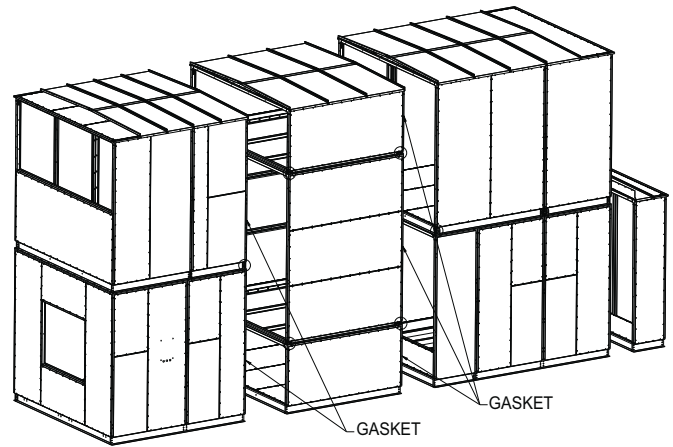
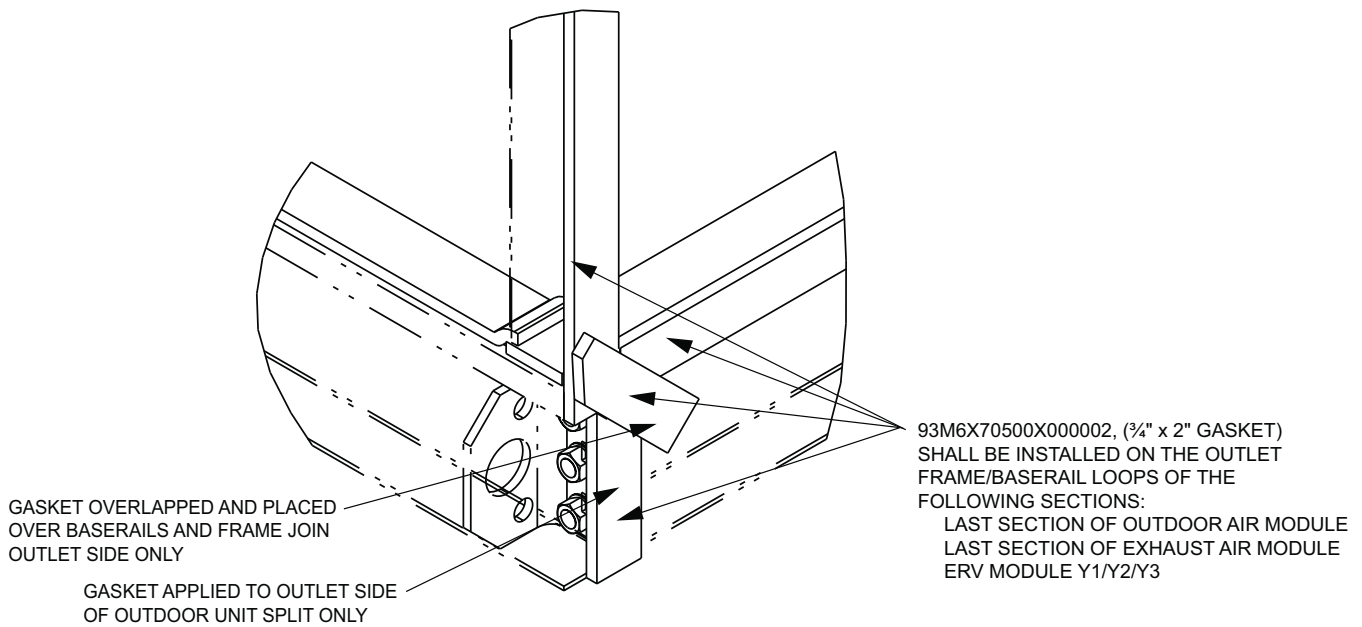

Fig. 169 — Outlet Perimeter Gaskets
Fig. 170 — Gasket Installation
Verify that outlet perimeters at the locations shown in Fig. 169 have 3/4 in. x 2 in. gasket installed as shown in Fig. 170.
4. Stack upper section for the supply air module on the return air module making sure to align the stacked vertical frames. Connect stacked base rail to frame as shown in Fig. 170.
8. Stack the ERV wheel section and secure baserail to lower section as shown in Fig. 170. Take care to vertically align the faces of the stacked vertical frames.
11. Stack the upper ERV wheel bypass section and secure baserail to the lower section as shown in Fig. 170. Take care to vertically align the faces of the stacked vertical frames.
16. Stack the upper level sections for the outside air module on the lower level exhaust air sections and secure baserail to the lower section per Fig. 170.